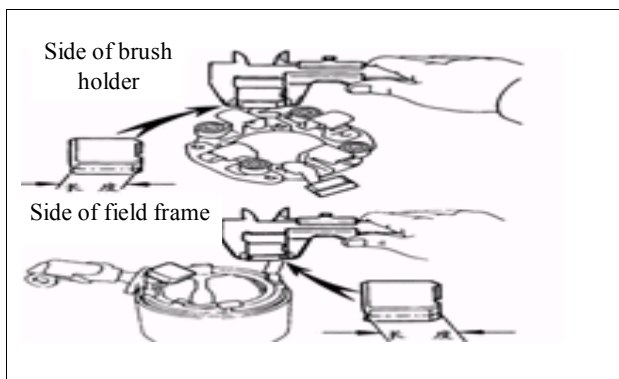

Figure 404
1) Use a dial caliper to measure the length of the brush (see Fig. 404).